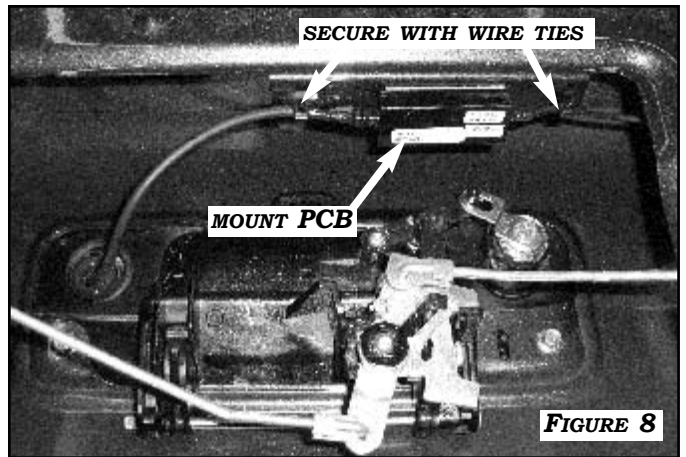
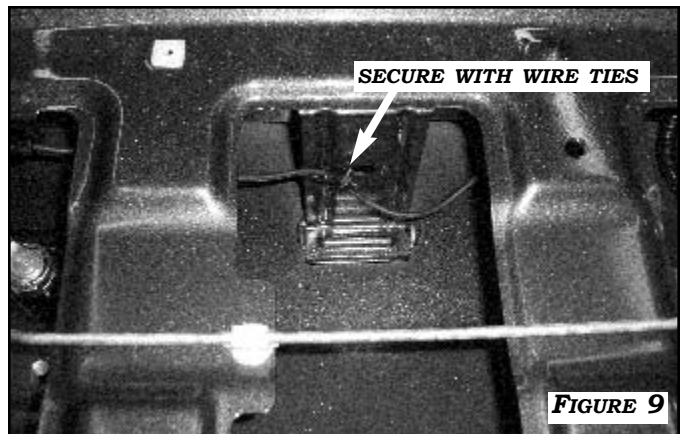
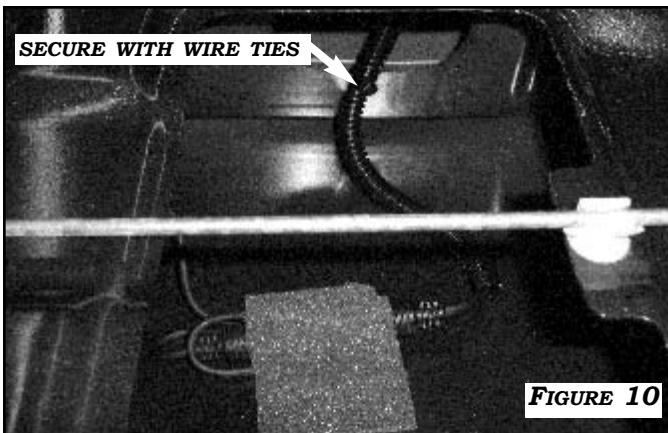

FIGURE 8
FIGURE 9
FIGURE 10
1. CLEAN THE AREA SHOWN IN **FIGURE 8** WITH ALCOHOL AND MOUNT THE CAMERA PCB TO THIS SPOT USING THE DOUBLE-SIDED TAPE. SECURE THE HARNESS WITH WIRE TIES AS SHOWN. ROUTE THE CAMERA HARNESS TO THE RIGHT OF THE TAILGATE, SECURING WITH WIRE TIES AS SHOWN IN **FIGURE 9**. CONNECT THE CAMERA HARNESS TO THE TAILGATE INTERFACE HARNESS BY SCREWING THE TWO CONNECTORS TOGETHER. SECURE THE CONNECTOR TO THE TAILGATE WITH FOAM TAPE TO PREVENT RATTLES. **FIGURE 10**